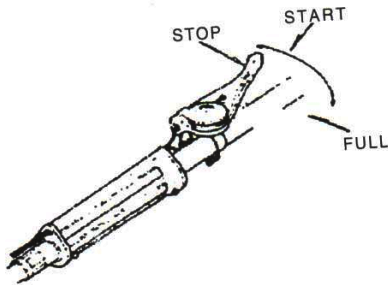

Fig .11
2) Move the throttle lever to start position or about 1/4 full throttle, in case of metal lever. (Fig. 11)